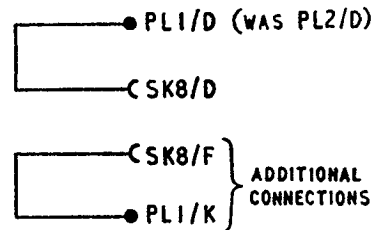

Fig. 1. Amendments to blanking unit Type 26B
3. In the Type 26B the +250V h.t. supply has been re-routed as shown in fig. 1. This change is to avoid damage to the deflection amplifiers and is related to the modification to the indicator unit (CRT) Type 16453 (See Chap. 1, App. 1, of this Section).